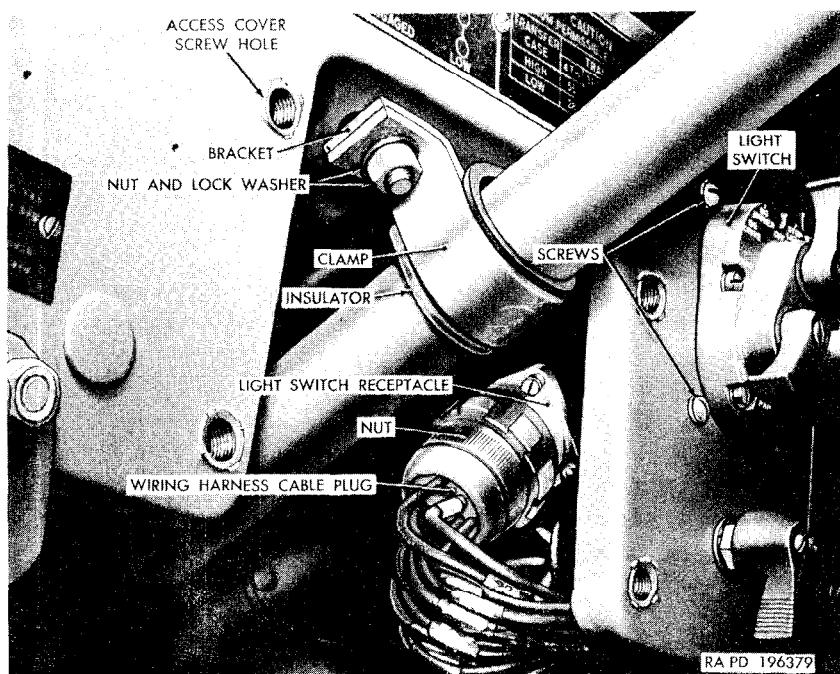

Figure 146. Steering column access cover removed.
- (1) Remove the four screws and lockwashers that attach the steering column access cover to the instrument panel and remove the cover.
- (2) Unscrew the nut that retains the waterproof grommet to the light switch receptacle (fig. 146) and remove the wiring harness cable plug from the receptacle. If the light switch is provided with the trailer coupling receptacle, disconnect the trailer coupling wiring harness in the same manner.
- (3) Remove the four screws and lockwashers that secure the light switch to the instrument panel. Remove the light switch by pushing it through the panel and removing it from beneath the panel.
- (1) Install the light switch (fig. 146) from the under side of the instrument panel. Secure with four No. 10 lockwashers and No. 10-32NF x $\frac{1}{2}$ roundhead screws.
- (2) Install the wiring harness cable plug in the light switch receptacle, and screw the grommet retaining nut to the receptacle. If the switch is provided with a trailer coupling receptacle, connect the trailer coupling wiring harness in the same manner.
- (3) Install the steering column access cover on the instrument panel with the four lockwashers and screws, being careful to position the cover in such a manner that it does not cause binding at the steering column.